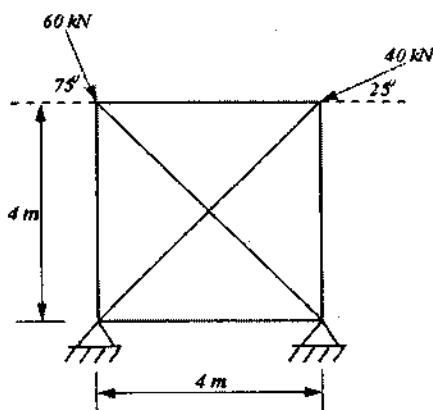

Figure 5
- Q. 4. Analyse the pin-jointed frame shown in figure 5 using **Generalised Flexibility method** and hence find the forces in all the members. AE is same in all the members.